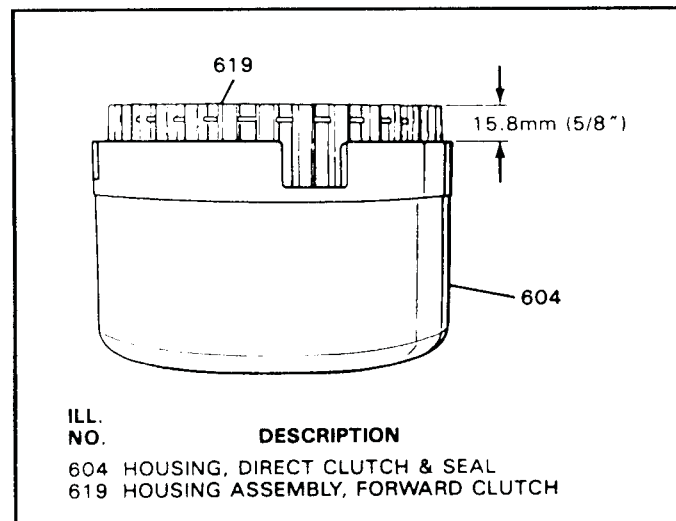

Figure 92
39. When forward clutch is seated, it will be approximately 5/8" from tang, as shown in Figure 92.